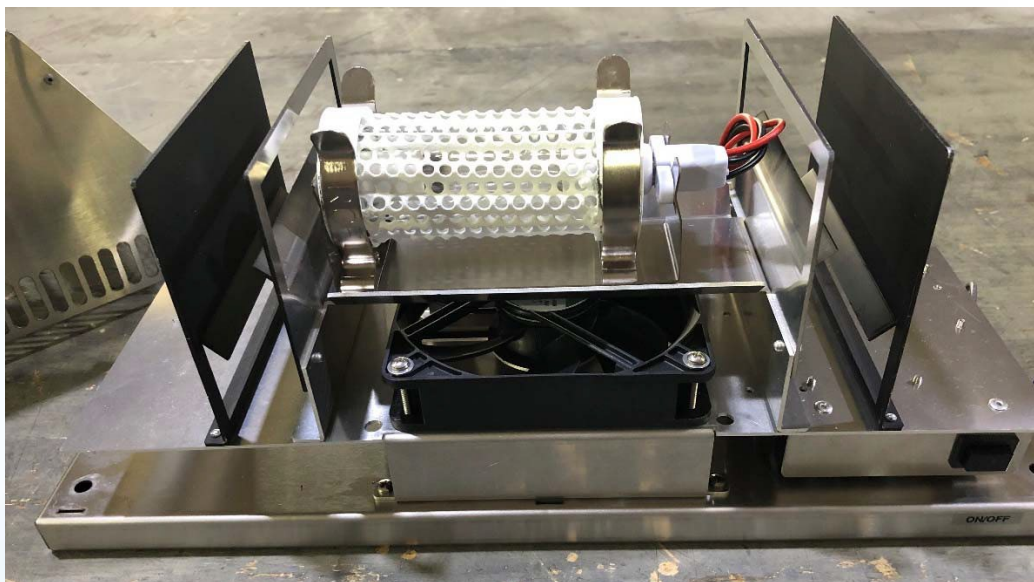

Figure 9 - NEW BULB INSTALLED
5. Using replacement cell, installation and reassembly should happen in the reverse order. NOTE: Ensure that the pins on the cell line up with the connector properly before pushing together. See Figure 9.